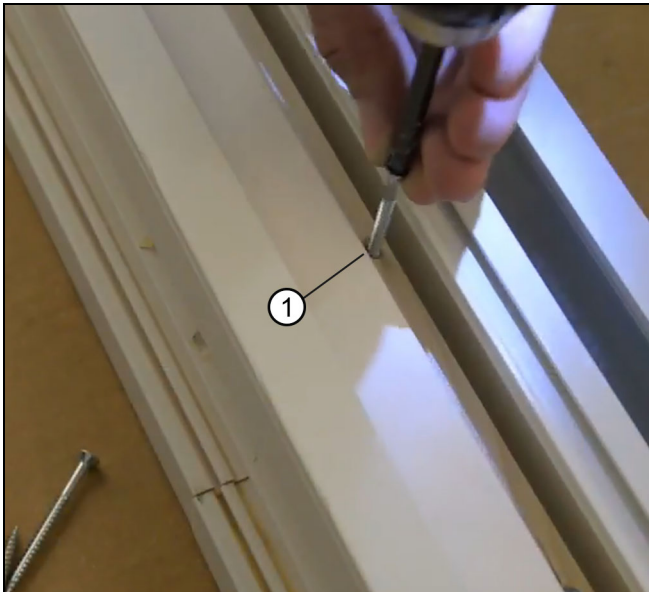

Figure 23
6. Fasten the support block to the head jamb. See Figure 23. Pre-drill the head jamb track installation holes with a 1/4" bit using the holes in the head track as a guide.